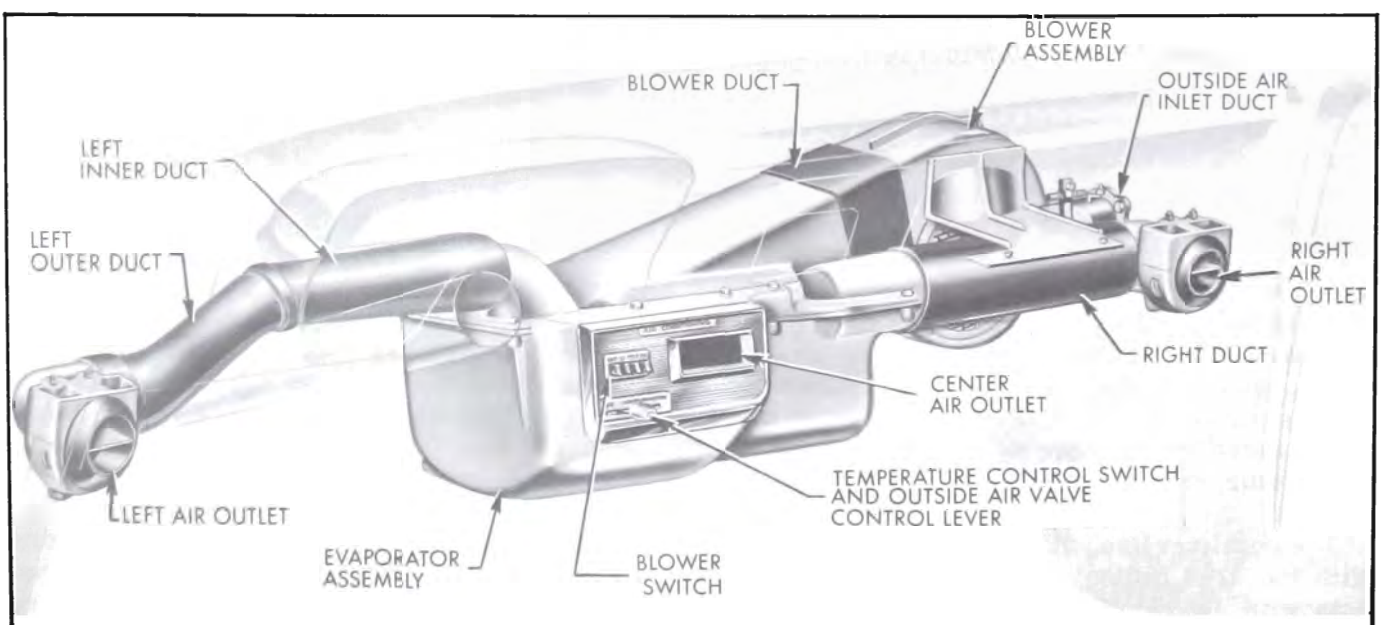

Figure 11-22—Evaporator Assembly and Air Outlets
5. Evaporator Assembly. The evaporator assembly consists of the evaporator core, thermostatic expansion valve, the blower switch and resistor, mechanism for outside air valve, temperature control switch and the center air outlet. All these parts are enclosed in a plastic housing assembly located under the center of the instrument panel. See Figure 11-22. The case also has provisions for two drain hoses, for an air inlet duct from blower and for the ducts to each of the air outlets located under each end of instrument panel.